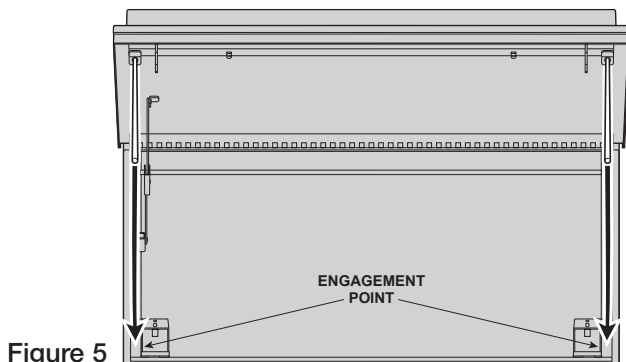

Figure 5
4. Slowly lower cover until it is parallel with the ground. Be sure the prop arms are engaged in slots as shown below (figure 5). Make sure prop arms are fully engaged forward so that the prop arms are perpendicular to the cover.